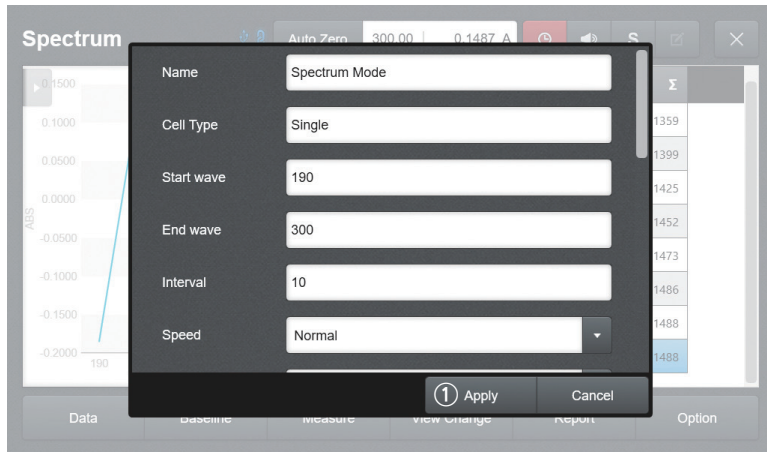

Fig. 5.11
3. [Fig. 5.11] Select and enter the Name, Cell Type, Start Wavelength, End Wavelength, Interval, Speed, Peak/Valley Coefficient, Memo, and View Change, then press ① **Apply**